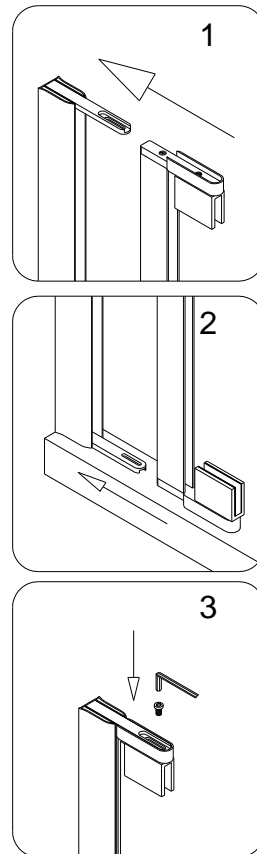
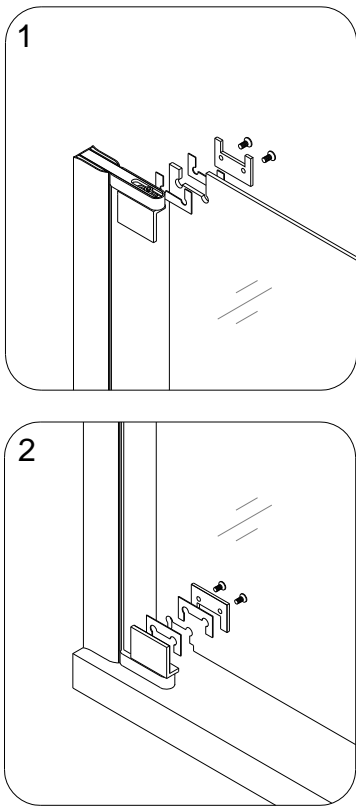

Fig 4
Fig 5
4. Push the assembled **Glass profile for glass door (2)** into the groove of the **Wall profile for glass door (1)**. Secure the upper **Pivot assembly (7)** and the upper **Pivot retainer (8)** using **Socket head screw M6×12 (18)**. See Fig 4 for details.
- Please note the **Glass door (3)** is very heavy; you will need help of 1-2 people to hold this door for you during next step.
Remove the **Bolts (L)** and **Back plates (K)** from the **Pivot assembly (7)**; then install the **Glass door (3)** to the **Pivot assembly**. Make sure the rubber gaskets are in between the glass and the metal parts. Secure the **Glass door** to the **Pivot assembly**. See Fig 5 for details.